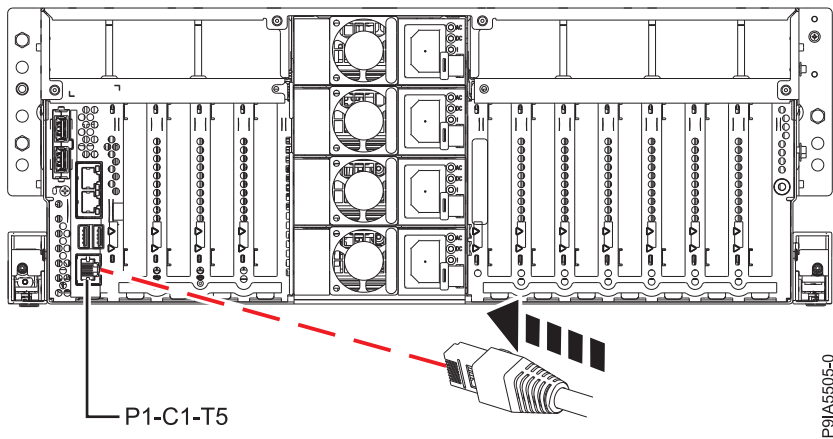

Figure 4. Replacing the serial cable
2. Connect the serial cable indicated in the **FRU Location** field in the upper left of this page. See Figure 4.